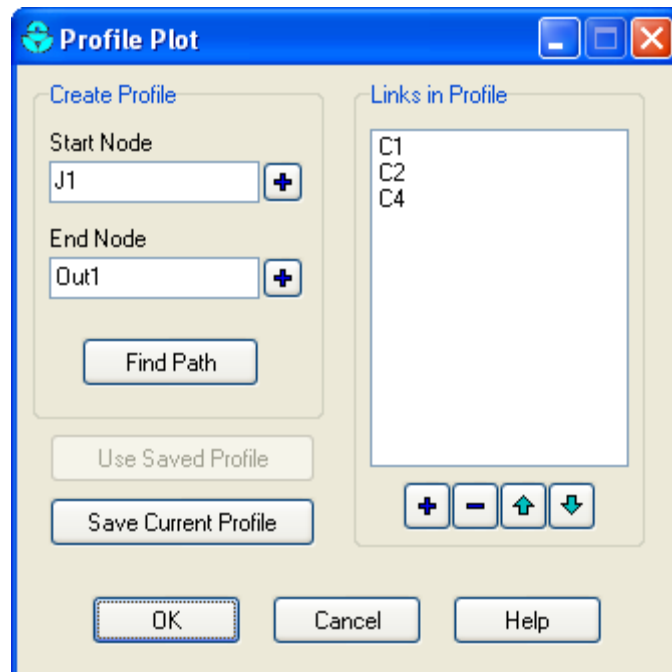

Figure 2-14. Profile Plot dialog.
2. Either enter *J1* in the Start Node field of the Profile Plot dialog that appears (see Figure 2-14) or select it on the map or from the Data Browser and click the  button next to the field.